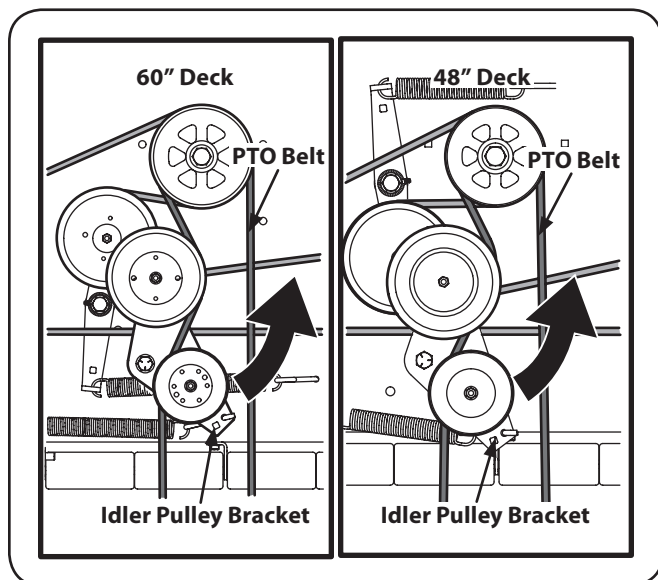

Figure 7-2
4. Using a ½" drive in the idler pulley bracket, turn the wrench towards the right of the tractor and slide the belt off the PTO pulley. See Fig. 7-2.